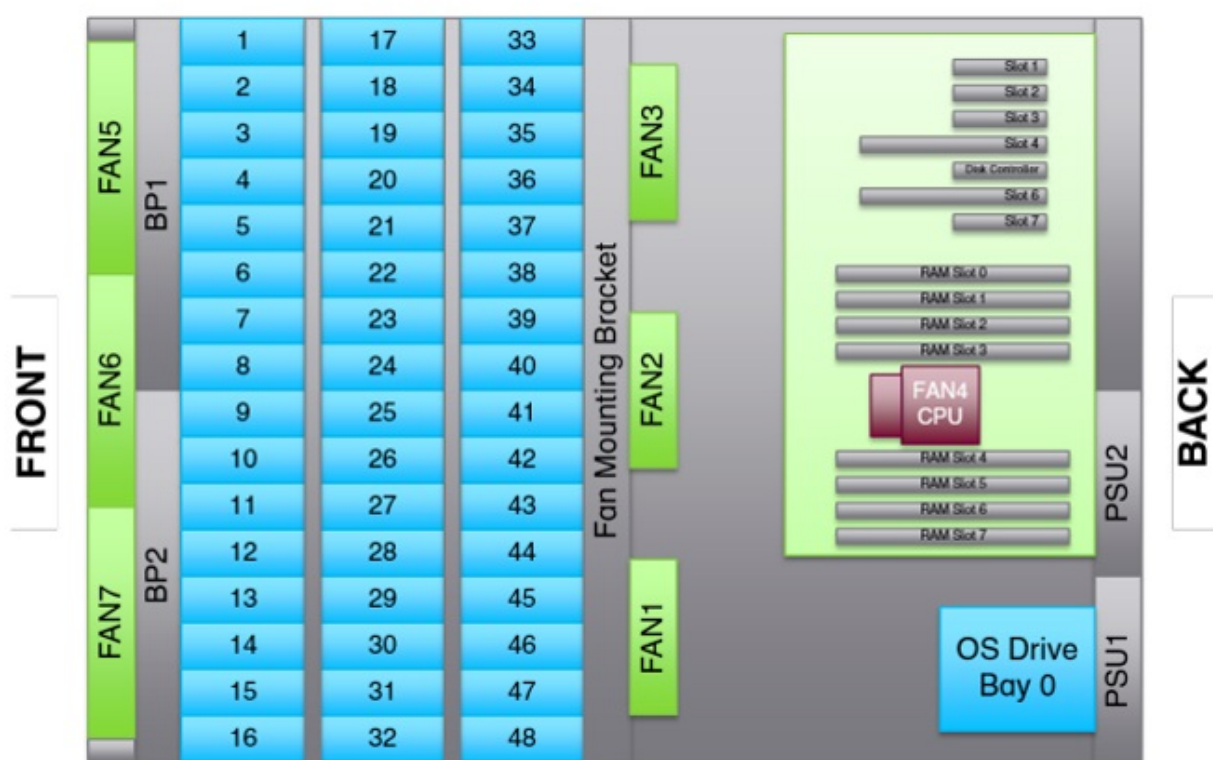

Figure 4. Slicestor 1440/2440 - fan locations
7. Identify the fan that needs to be replaced by using either the Figure 4 on page 13 diagram or the diagram on the underside of the front lid.
6. Identify the fan that needs to be replaced by using either the Figure 4 on page 13 diagram or the diagram on the underside of the front lid.